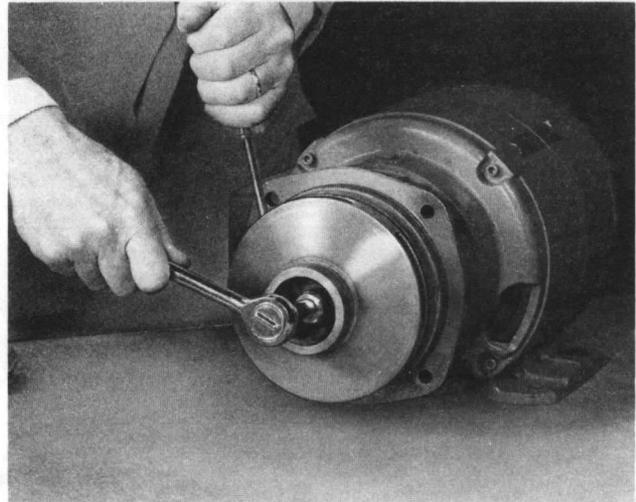

Figure 5
6. Insert a screwdriver in one of the impeller waterway passages and back off the impeller bolt with a socket wrench, as shown in Fig. 5.
7. Remove washer and impeller from shaft, being careful not to lose the impeller key. If impeller is difficult to remove, it may be necessary to insert two (2) screwdrivers, between impeller and adapter, 180° apart to pry off impeller.